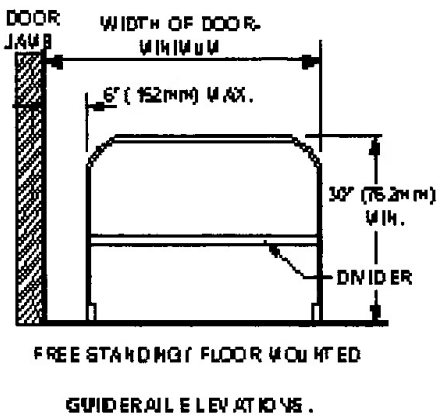

Figure 11
5. **Guide Rails.** Check that guide rails or other barriers or separators are present (two per swing door side) and firmly anchored. Rail length should be the width of the open door or greater. (See Figures 11, 12, 13).